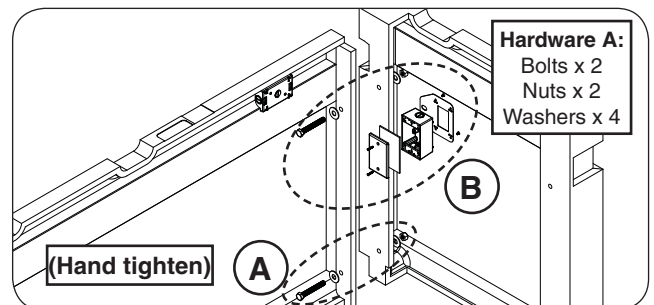
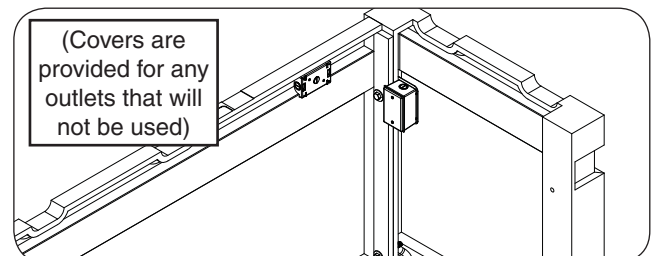

Fig. 9-3 Assemble right side wall and outlet box
Fig. 9-4 Right side wall and outlet box installed
1. Orient the right side wall and repeat the hardware installation process (hardware kit A) for the bottom hardware first. Ensure the top pilot holes are also aligned. Hand tighten only. See Fig. 9-3, A.
An outlet box assembly is provided and requires installation. Assemble the box as shown (using a flathead screwdriver), then repeat the hardware installation process to secure both the top of the right wall and the outlet box in place. Hand tighten only. See Fig. 9-3, B and Fig. 9-4.